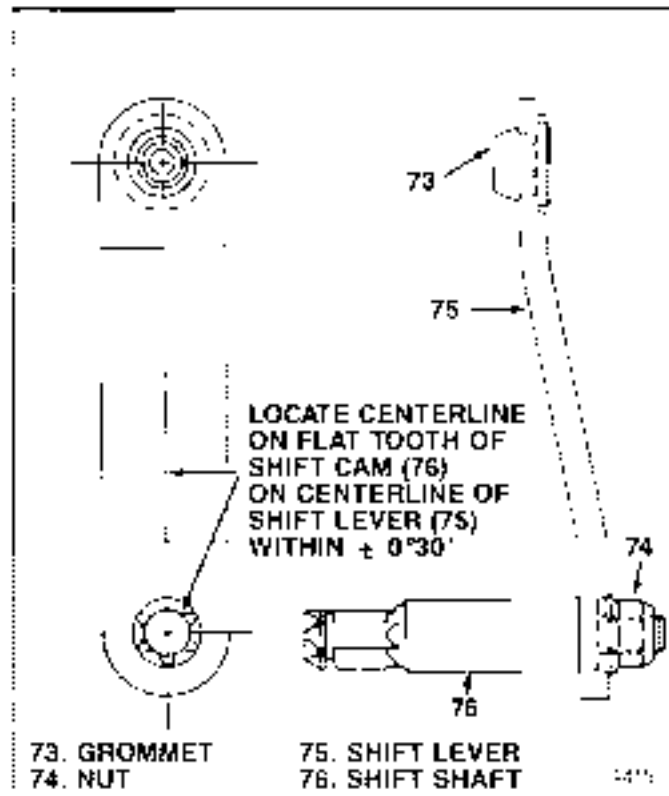

Figure 5-7. Shift Lever Assembly
a. If disassembled, install shift lever (75) on shift shaft (76). Install nut (74) but before tightening, align lever with flat tooth on shaft spline as shown in figure 5-7. Torque nut to 19-26 lb-ft (26-35 Nm).
b. Lubricate grommet (73) and install in shift lever (75) so that grommet flange seats in lever counterbore as shown in figure 5-7.
c. Lubricate shaft and install shift lever assembly (72). Start splined end of shaft into transfer case (106) until end is flush with inside of case.
d. Install assist bushing (78) on end of assist spring (77) and install in groove in shift cam (79) closest to shift lever assembly (72). Install other end of spring through case bracket notch and into hole in transfer case (106).
e. Insert shift cam (79) into transfer case. Position both cam and shift lever assembly (72) so that flat spline teeth are aligned. Splines will go together in one position only. Install shift lever assembly fully into cam.
f. Install clip ring (71) in groove near inside end of shift lever assembly (72) to retain shift cam (79).
g. Install 4WD indicator switch (70) and torque to 8.0-12.0 lb-ft (10.8-16.3 Nm).